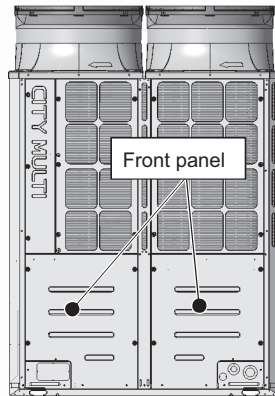

Figure 1
- (1) Remove the front panel from the unit by unscrewing the 14 screws. (See Figure 1.)